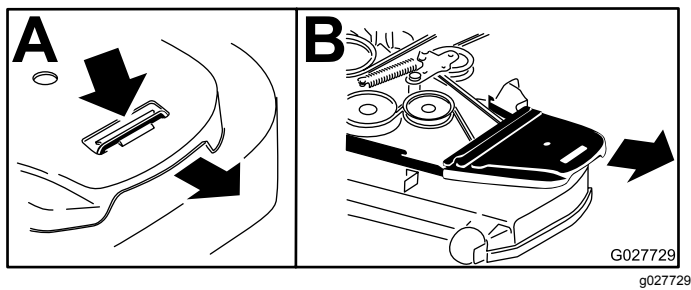

Figure 90
5. Remove the plastic belt cover (Figure 90).
4. Remove the belt covers (Figure 90).